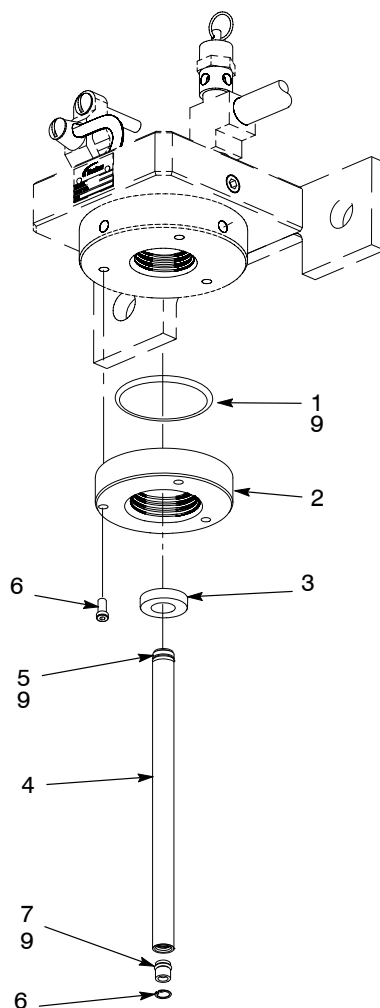

Figure 4 Parts
See Figure 4 and the following parts list. To order parts, call the Nordson Industrial Coating Systems Customer Support Center at (800) 433-9319 or contact a local Nordson representative.